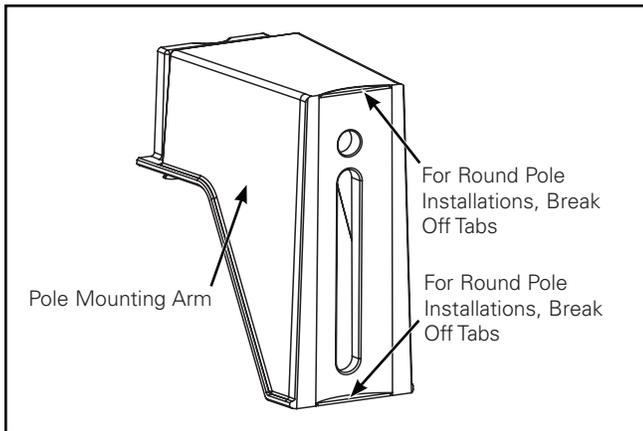
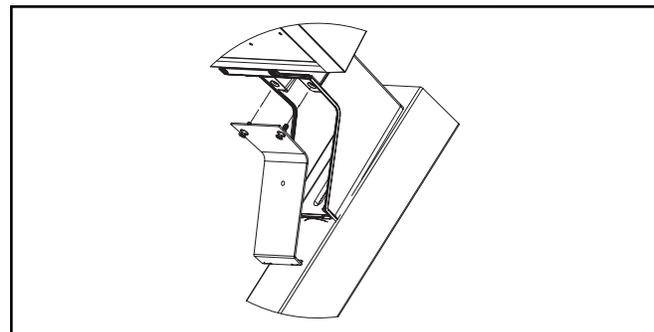

Figure 1.
Figure 5.
Factory Installed Housing Side Arm - Option (Figure 1. – Figure 5.)
1. Pole mounting arm is designed for a square pole (up to 6" square) or round pole mounting (up to 5" maximum diameter at luminaire mounting area). Round pole installation will require the mounting arm break away tabs to be removed. Grab break away tab with pliers and break-away the tabs. (Figure 1.)
Note: Ensure the luminaire supply leads do not get pinched between cover and mounting arm. (Figure 5.)